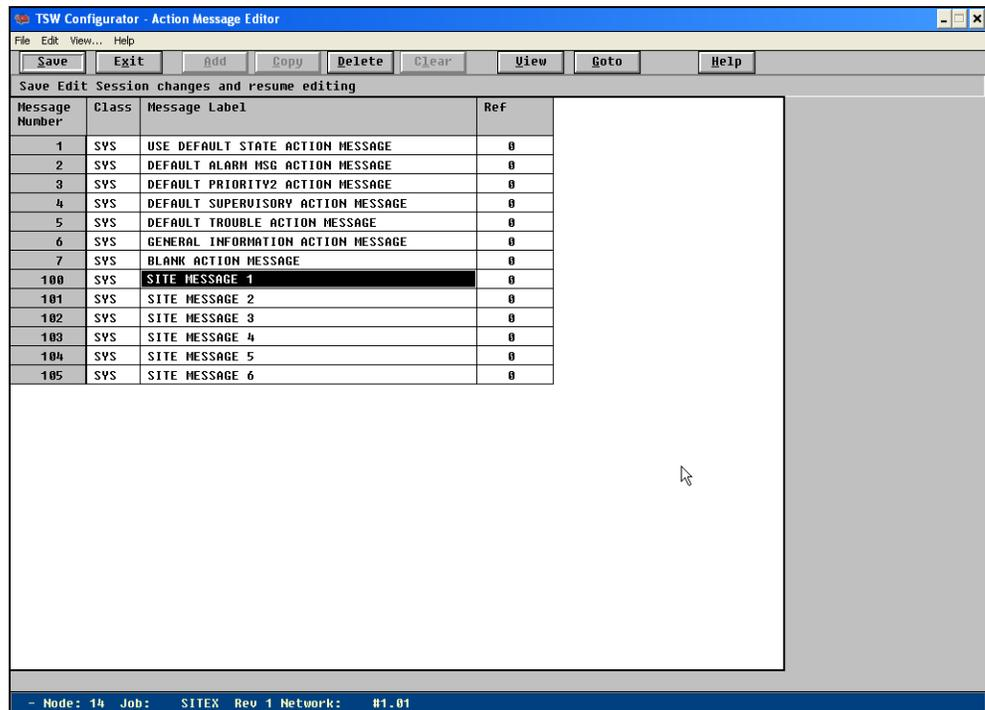

Figure 7-13 Action Message Editor (in TrueSite Workstation Configurator)
5. Once you are logged in, click on **Configure -> Action Message**. The **Action Message Editor** (Figure 7-13) launches. You can configure action messages by double-clicking on the **Message Label** field of one of the messages numbered between 100 and 105.